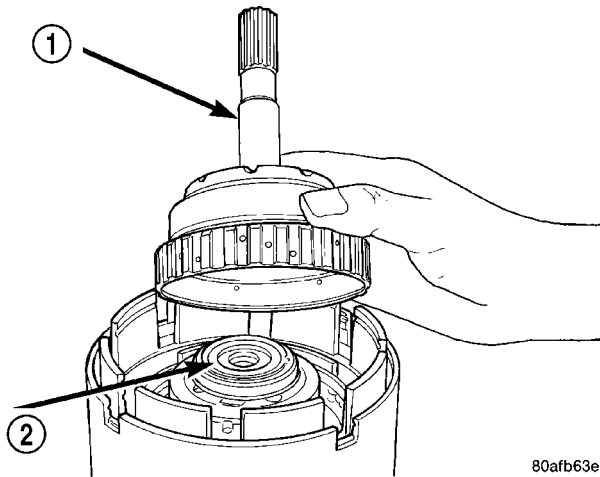

Fig. 250 Install Underdrive Shaft Assembly
(38) Install the underdrive shaft assembly (Fig. 250).